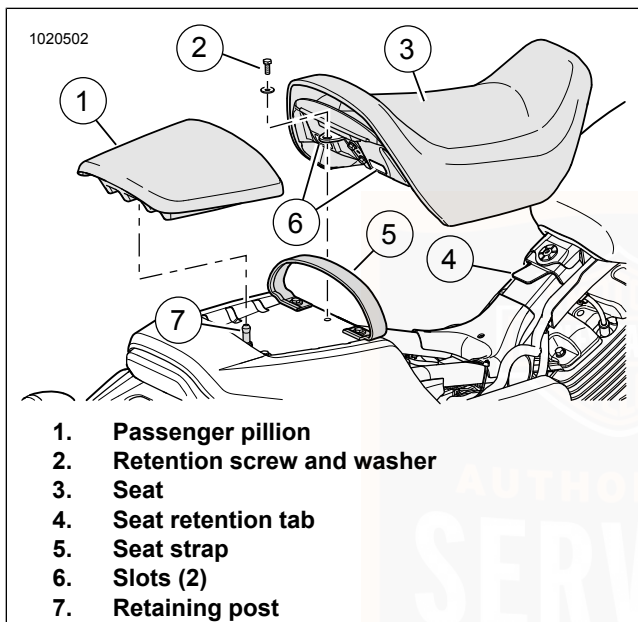

Figure 61. Seat: Street Rod (XG750A)
1. See Figure 61. Remove passenger pillion (1).
- a. Lift rear of passenger pillion to release pillion from retaining post (7).
2. Remove seat (3).
- a. Remove seat retention screw and washer (2).
- b. Position seat strap (5) away from seat.
1. See Figure 61. Install seat (3).
- a. Slide seat forward and on to seat retention tab (4).
- b. Install the seat retention screw and washer (2).